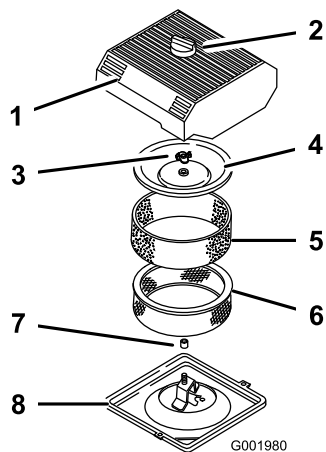

Figure 41
3. Clean around the air cleaner to prevent dirt from getting into the engine and causing damage (Figure 41).
- Loosen the knob on the air cleaner cover and remove the cover (Figure 41).
- Carefully slide the foam element off the paper element (Figure 41).
- Unscrew the cover nut and remove the cover and paper element (Figure 41).
- Carefully slide the foam element onto the paper air cleaner element (Figure 41).
- Install the cover nut finger-tight against the cover (Figure 41).
- Install the air cleaner cover and knob (Figure 41).